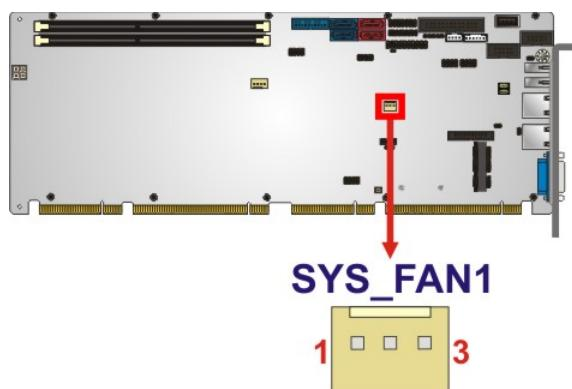

Figure 3-10: System Fan Connector Location
**CN Location:** See Figure 3-10